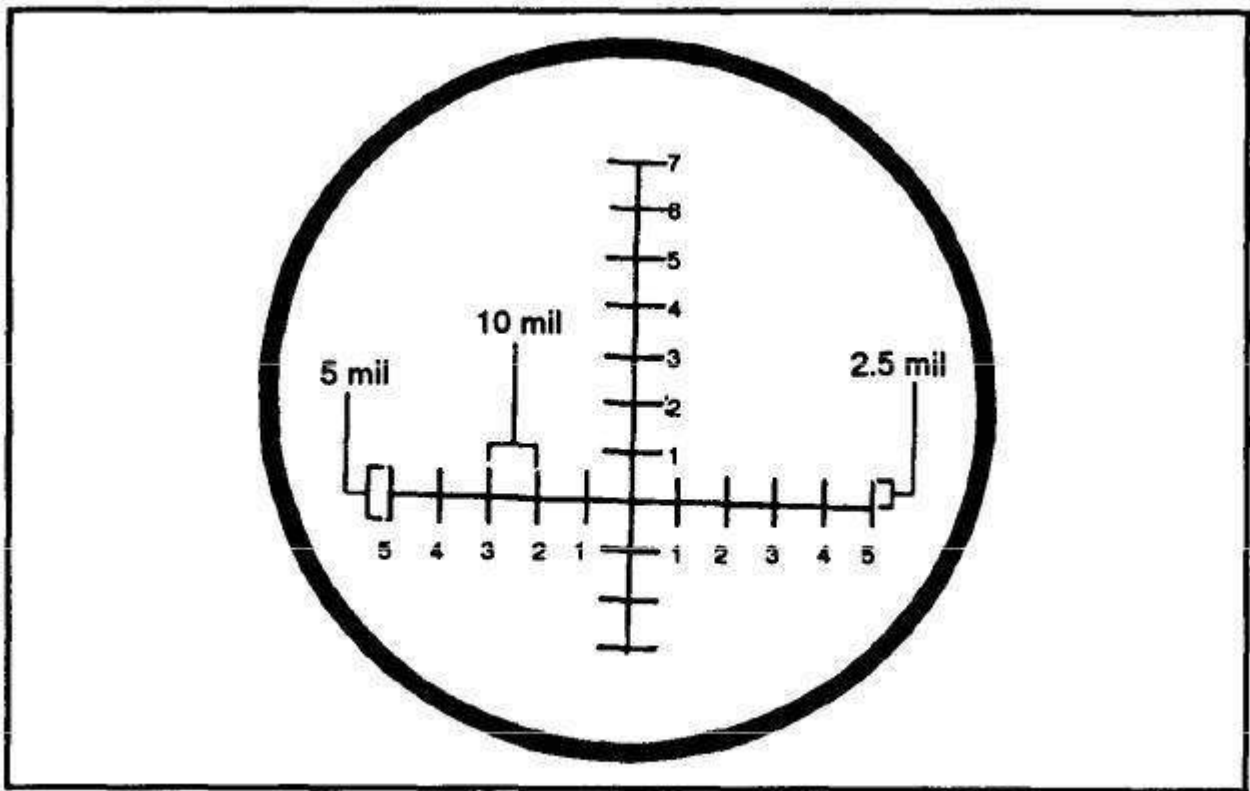
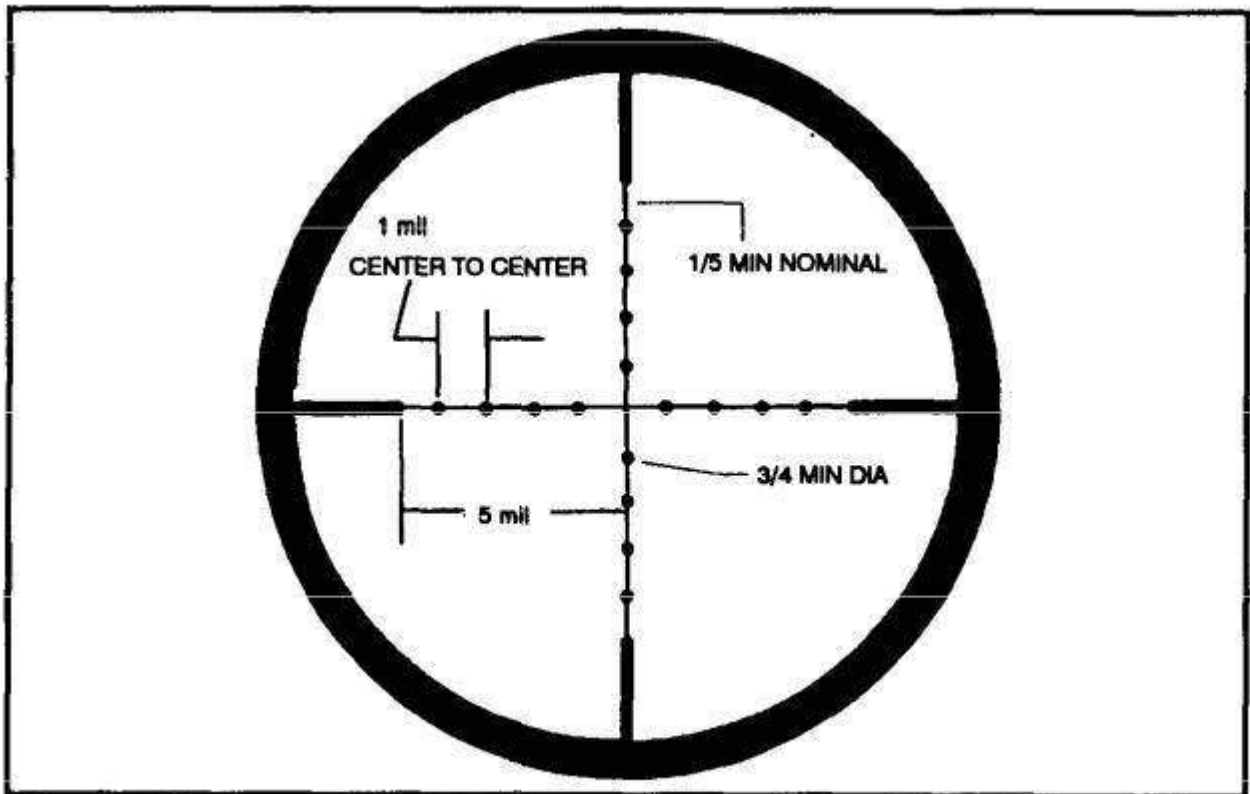

Figure 4-19. M19 mil-scale reticle.
Figure 4-20. M3A mil-scale reticle.
f. Mil-Relation Formula. The mil-relation formula is the preferred method of range estimation. This method uses a mil-scale reticle located in the M19 binoculars (Figure 4-19) or in the M3A sniperscope (Figure 4-20). The team must know the target size in inches or meters. Once the target size is known, the team then compares the target size to the mil-scale reticle and uses the following formula: